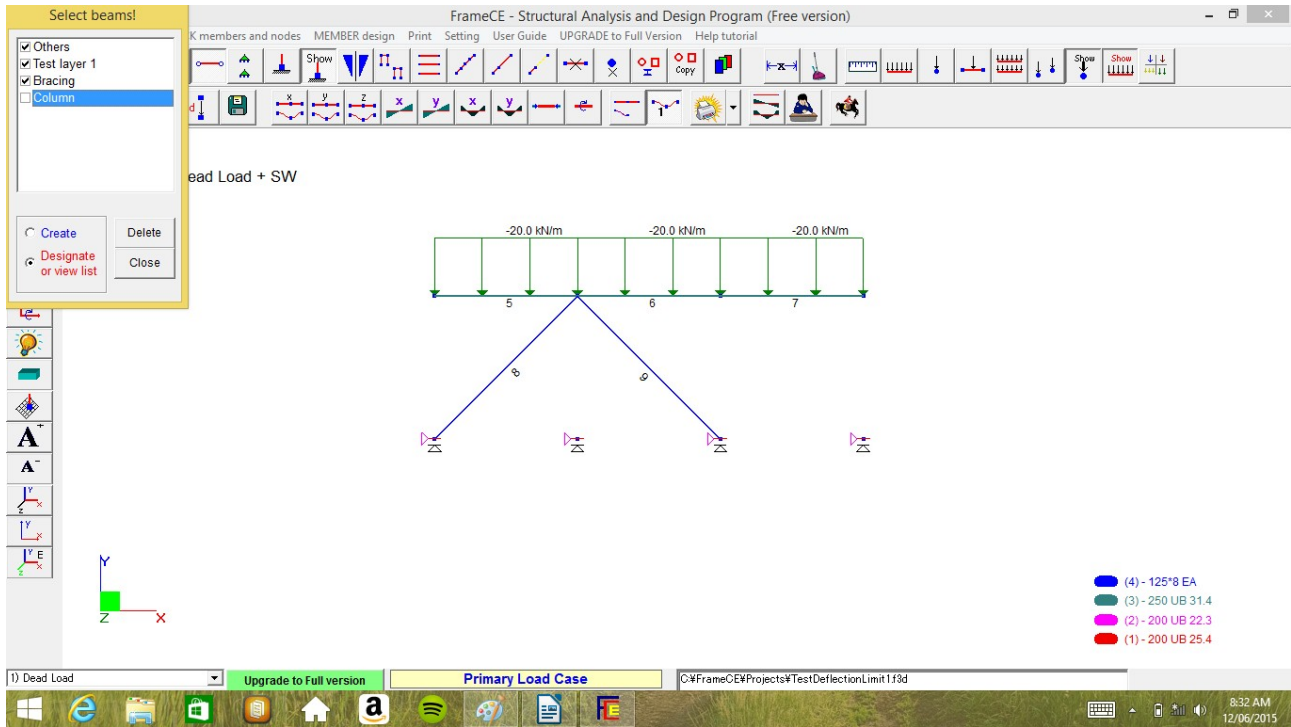
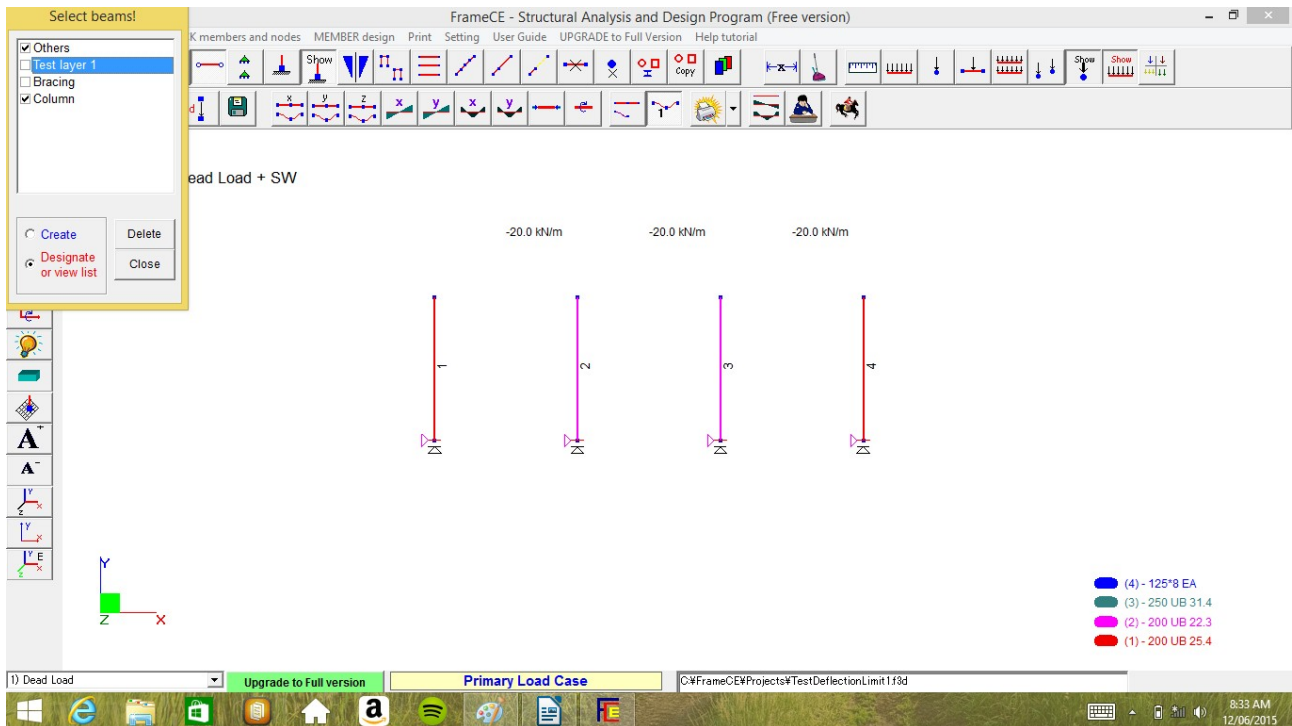

Figure 51
Figure 52
**Step 8:** Select which layer to show and which select to hide. *Checked* layers will be visible whereas *unchecked* layers are hidden. Checking and unchecking layers can be done by clicking the box to the left of the layer name. See Figure 51 and Figure 52.